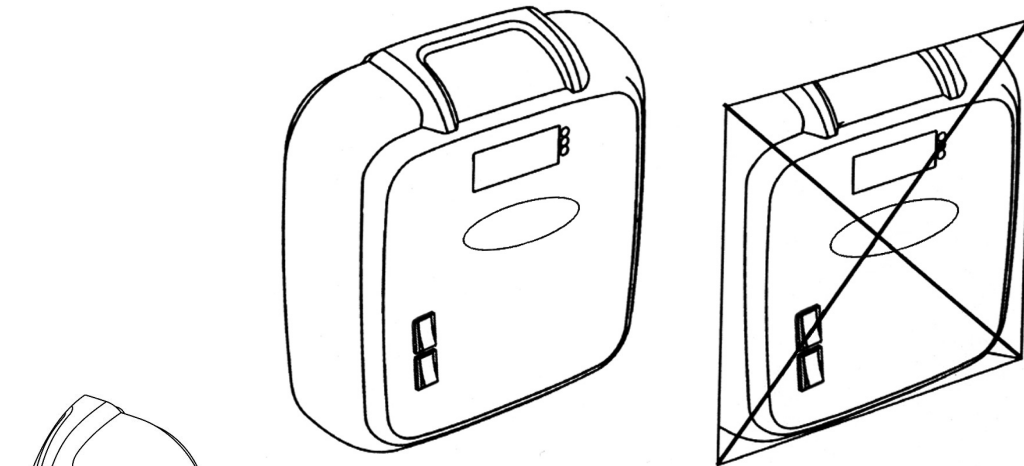

Fig. 4. The control centre is not suited for flush mounting.
- The control centre is not suited for flush mounting. Fig. 4.